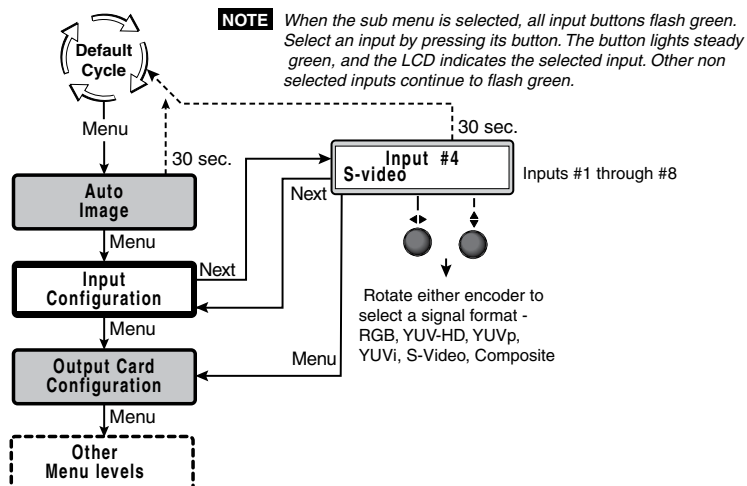

Figure 3-43 — Input configuration menu
1. From the default cycle, press the Menu button twice to select the input configuration menu (see figure 3-43)